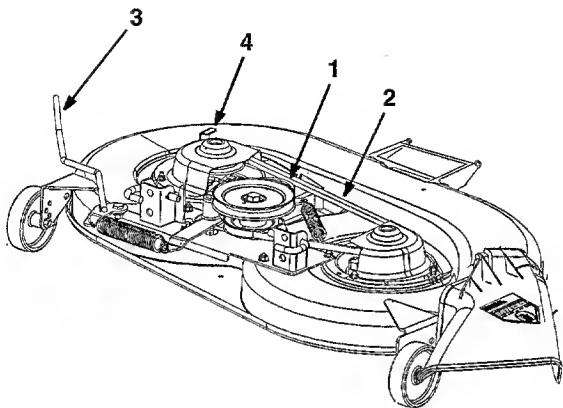

Figure 12
5. Install a new belt on the spindle pulleys and position the flat idler pulley against the backside of the belt so that the belt is tensioned. Refer to Figure 12 for the proper routing of the belt.